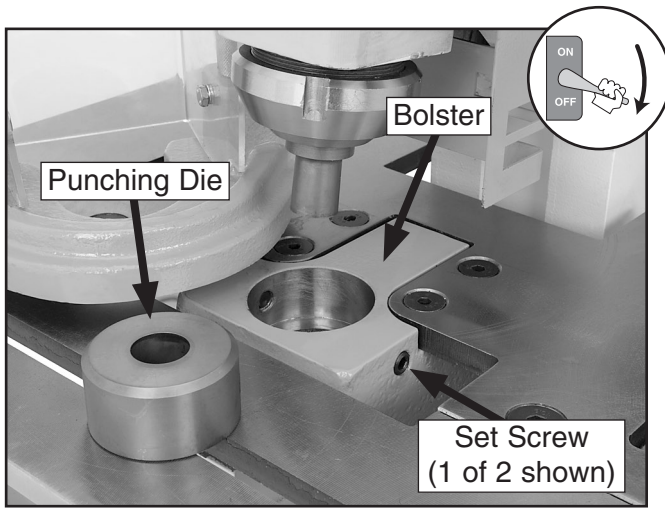

Figure 20. Punching die removed.
- Loosen the die set screws on both sides of the punch bolster, then lift the die from below and remove it (see **Figure 20**).